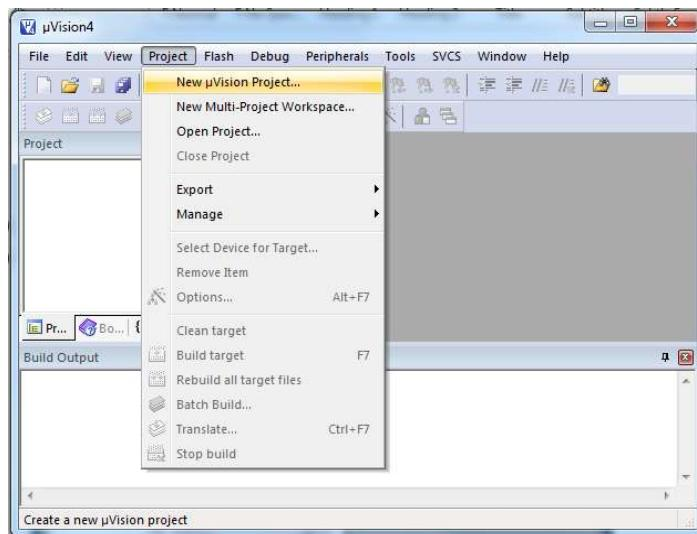

Figure 9.4: Creating a new project.
- 3) Go to Project → New uvision Project as shown in Figure 9.4.